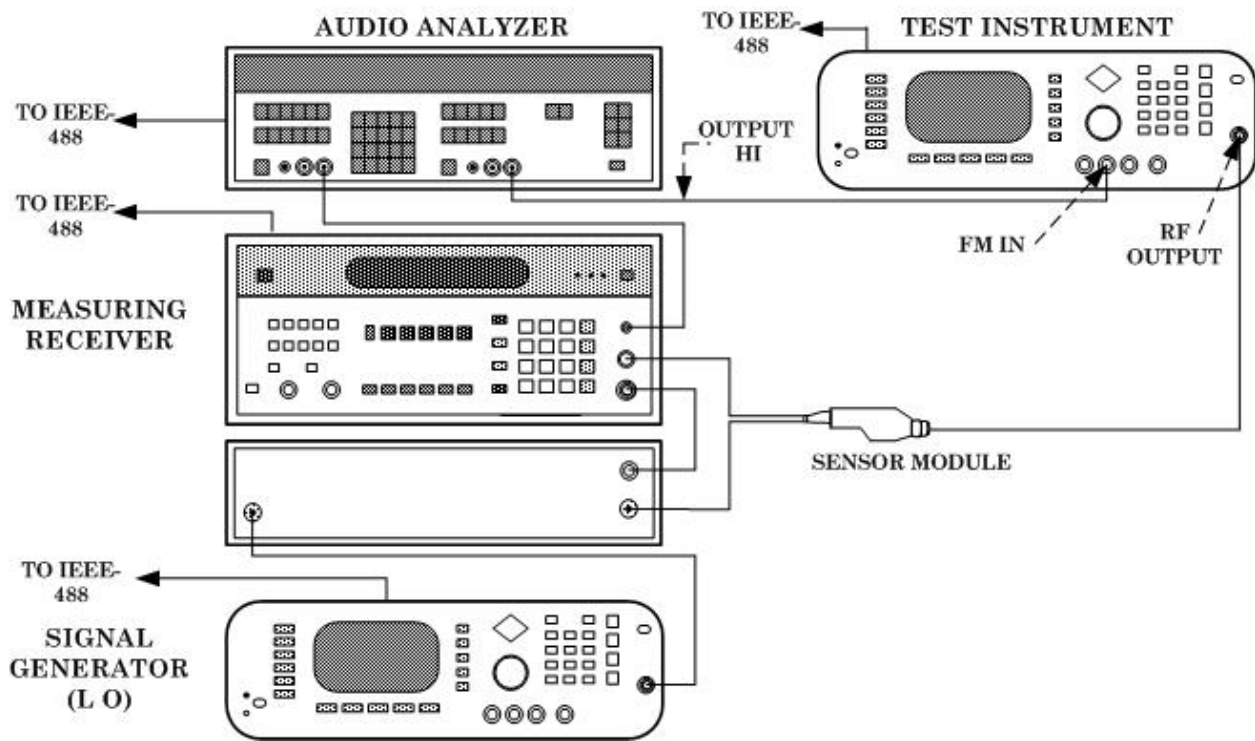

Figure 6. Frequency modulation hookup.
(1) Connect equipment as shown in figure 6 below.